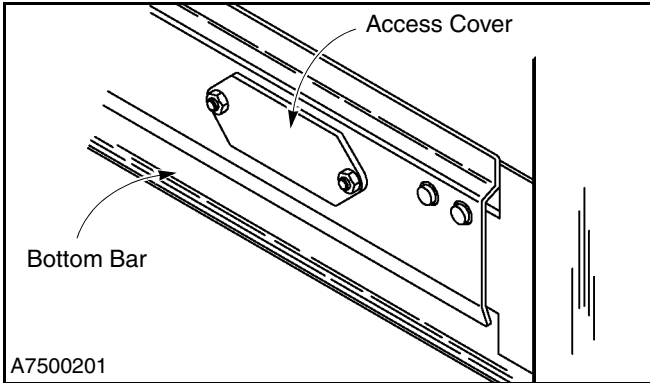

Figure 24
1. The reversing edge switch is located inside the bottom bar assembly. To inspect or adjust the switch, remove the access cover from the face of the bottom bar assembly. (See Figure 24.)